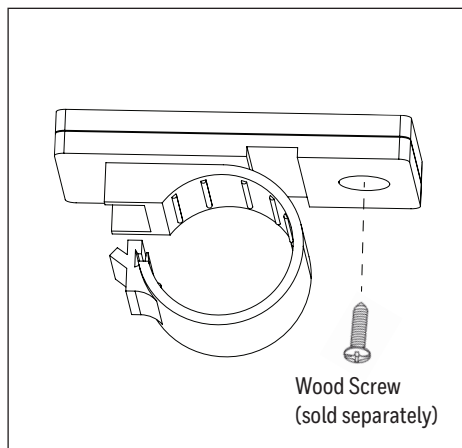

Figure 1.8
8. Optional) Cord clips have a round hole to accommodate a wood screw (sold separately) as an option to the taping method (Figure 1.8).